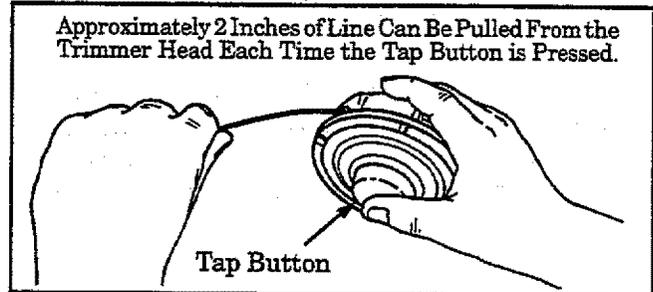

Figure 20
- j. Obtain correct line length (4 inches) by pressing the Tap Button (Figure 20) and pulling on the line again.